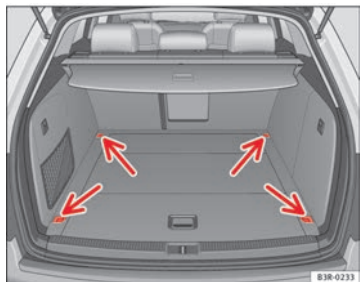

Fig. 116 Location of fastening rings in luggage compartment
- Use the fastening rings to secure the load ⇒ Fig. 116 -arrows-.